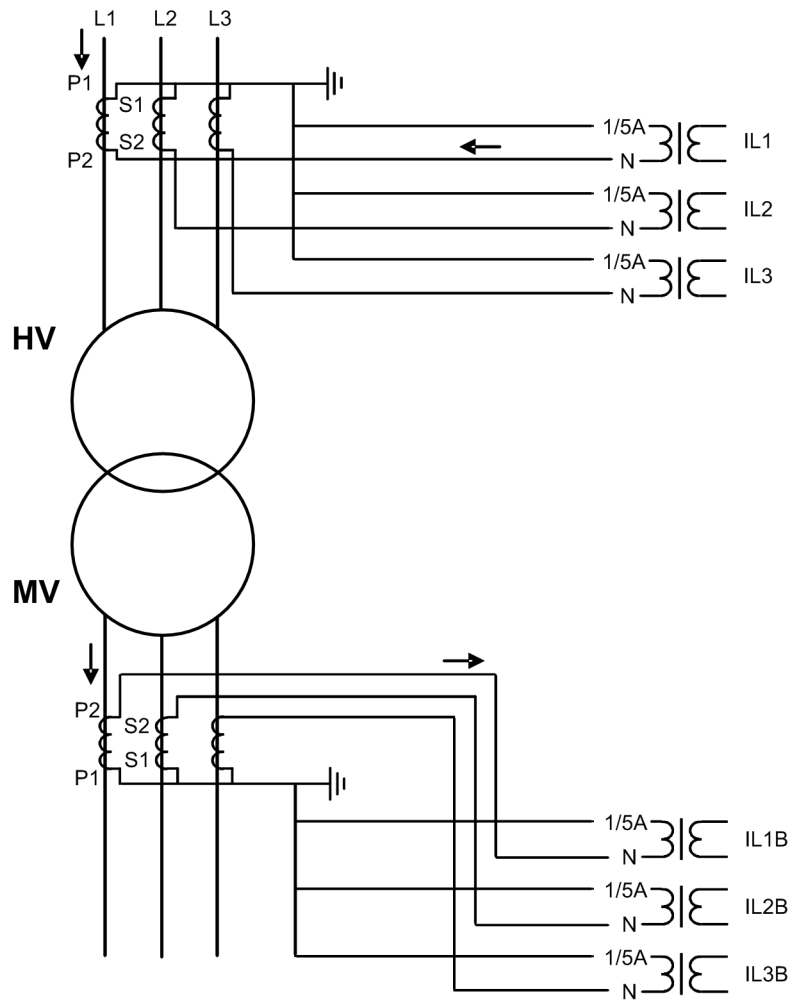
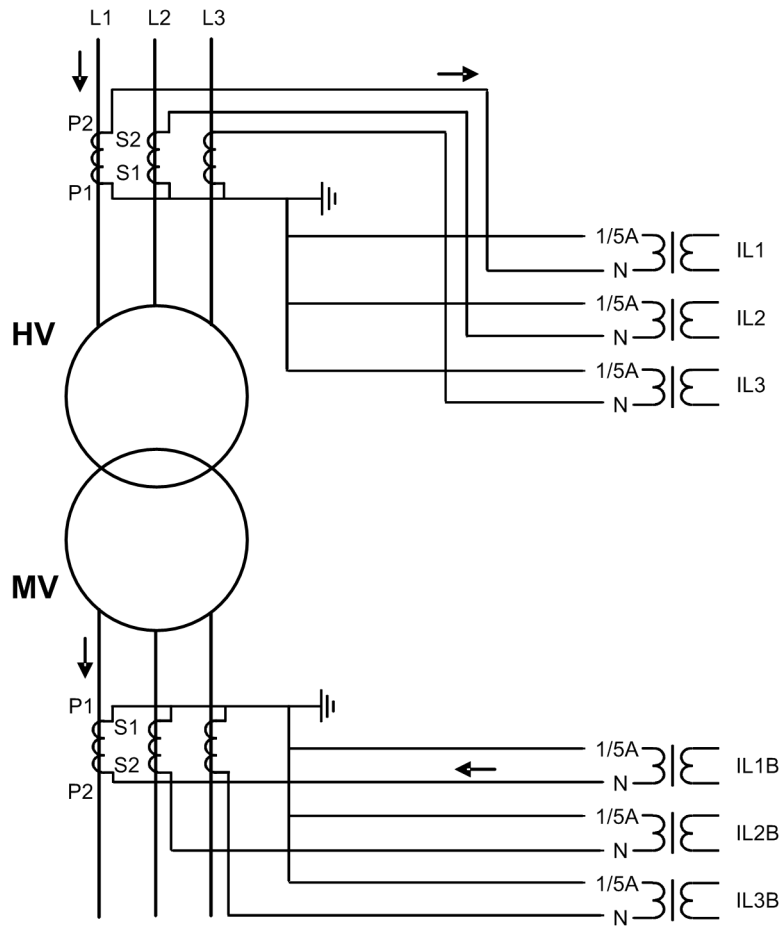

Figure 281: Connection example of current transformers of Type 1
Figure 282: Alternative connection example of current transformers of Type 1
- If the positive directions of the winding 1 and winding 2 protection relay currents are opposite, the *CT connection type* setting parameter is "Type 1". The connection examples of "Type 1" are as shown in Figure 281 and Figure 282.